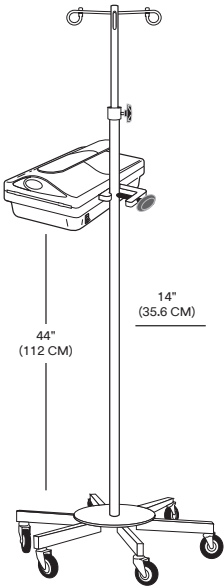

Figure 3
1. Attach the Ranger blood/fluid warming unit to the I.V. pole. Tighten the pole clamp securely (see Figure 3).